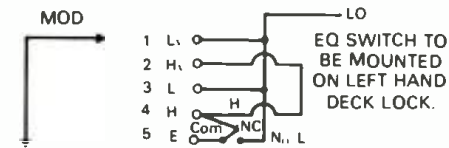

Figure 2: 53A Modified.
- 3 - Solder wiper wire of EQ switch to S-3 A-5 (see Figure 2).